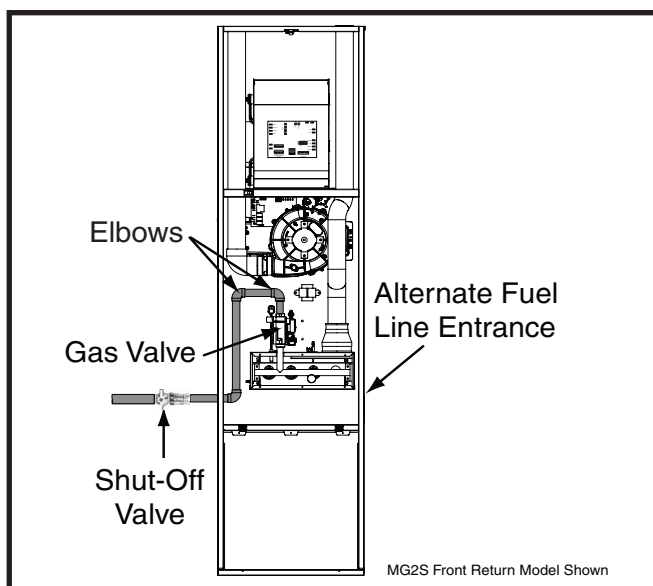

Figure 19. Typical Gas Connections
- Some local regulations require the installation of a manual main shut-off valve and ground joint union external to the furnace as shown in Figure 19. The shut-off valve should be readily accessible for service and/or emergency use. Consult the local utility or gas supplier for additional requirements regarding placement of the manual main gas shut-off.
The furnace is installed with a bottom gas entry. When connecting the gas supply, provide clearance between the gas supply line and the entry hole in the furnace casing to avoid unwanted noise and/or damage to the furnace. Typical gas hookups are shown in Figure 19.
- Connect the thermostat's **W** output to the furnace control boards **W1** terminal. This allows the furnace to always run in low output mode. See \(Figure 19\)